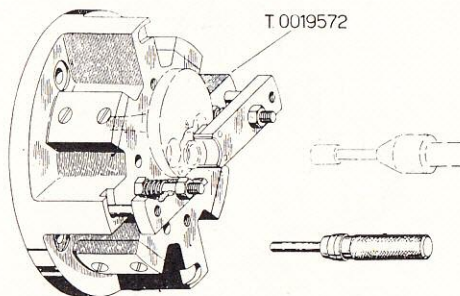

Fig. 89.
2. Enlarge the holes in the crankwebs to fit a larger diameter crankpin, leaving the same grade of force fit. The holes must be ground oversize, by means of the workholder T. 0019572 (see Fig. 89), to $\varnothing 18.20 \begin{smallmatrix} -0 \\ +0.027 \end{smallmatrix}$ to fit with the o/s crankpin diameter, $18.40 \begin{smallmatrix} +0 \\ -0.030 \end{smallmatrix}$ mm.